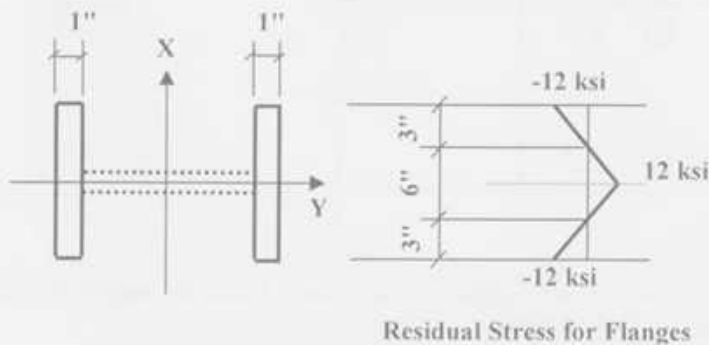

Fig. 4
4. The webless H section shown in Fig. 4 has the residual stress distribution as shown in the figure. Determine the corresponding values of L/r_x and L/r_y , if a column with the given section buckles at an imposed uniform compressive strain of -0.0012 in/in. 8 1/3